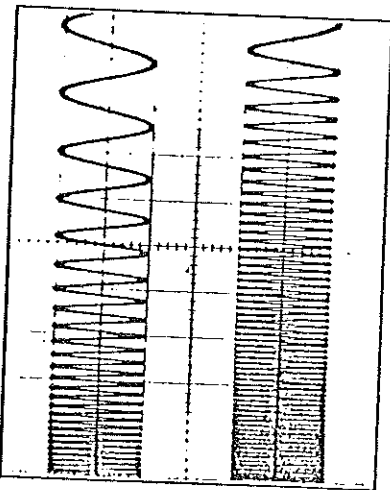

FIG. 5 FREQUENCY SWEEP WITH LINEAR & LOG RAMP
4.6 If a negative going ramp is required to control the frequency, set the desired maximum frequency by the frequency control dial and a negative going ramp will decrease the frequency. A 10V ramp will sweep the frequency from the maximum as set on the dial to two decades lower. Examples of linear and logarithmic sweep are shown in Fig. 5.